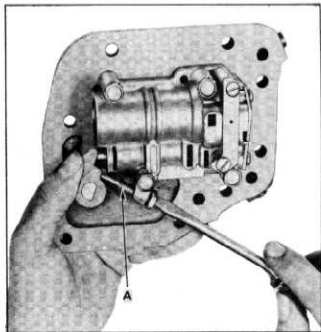

Fig. 25
1. Rotate the throttle valve inner lever until it just contacts the face of the detent valve. Hold the lever in this position and turn adjusting screw "A" until it just contacts the flat surface of the step in the lever (fig. 25). Back off one complete turn and lock in this position by tightening adjusting screw lock nut securely.